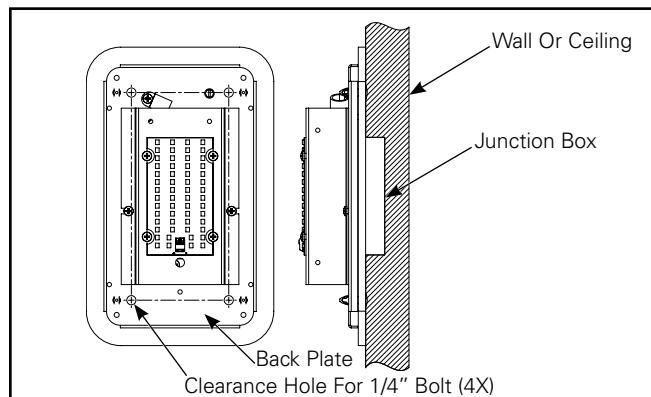

Figure 4.
3. Center mounting plate on flat smooth ceiling or wall over junction box. Use mounting plate as a template to layout fastener locations. (See Figure 4).